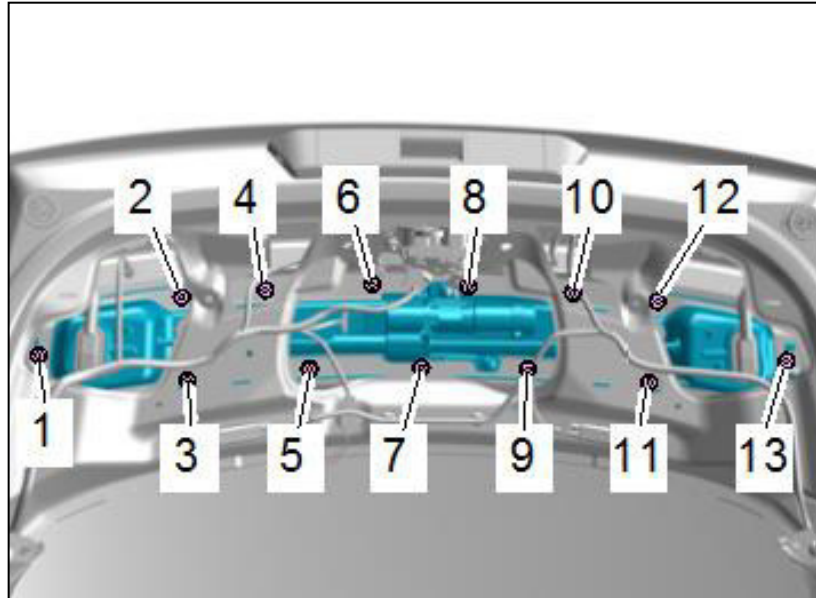

Fig. 4: Disassembly of drive unit and drive base plate
11. Remove the nuts 1-13 and remove drive unit and drive base plate (fig. 4).
18. **Attention:** Reattach the drive base plate. Please use the provided self-locking nuts. You are advised to keep to the proposed scheme shown in fig. 4 (page 6). (tightening torque 2Nm). Non-observance can lead to leakages!